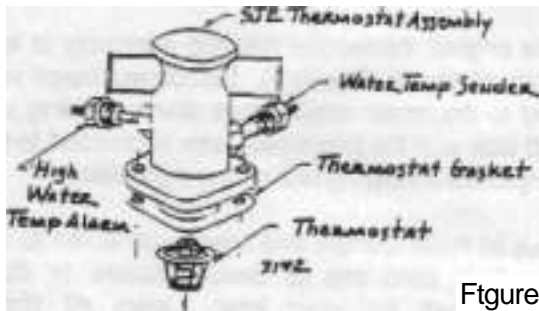

Figure 2
6. Remove the new thermostat housing assembly from your SJE kit (Figure 2). With the NPT threaded holes facing away from you, thread the original water temperature sender, sender with the larger probe, into the threaded hole on the left. Thread the original water temperature alarm sender into the remaining threaded hole on the right. Tighten both senders firmly, using caution not to over tighten. We recommend using pipe thread sealant when installing threaded fittings.
8. Clean thermostat housing gasket surface on the intake manifold. Insert new SJE thermostat, spring end down (Figure 2). Position new thermostat gasket, between thermostat and thermostat housing. Secure thermostat housing with the (2) 3/8" by 7/8" bolts and lock washers. Tighten the two bolts firmly and evenly.